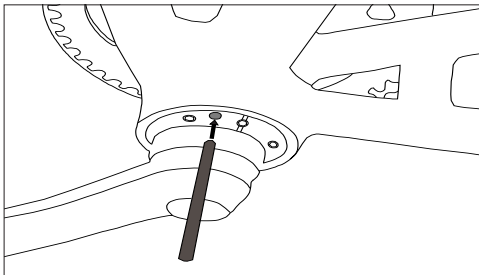

Fig. 59a: Eccentric bottom bracket adjustment
4. To rotate, first slide a 5mm rod through the open hole on the non-drive side of the bottom bracket. A long hex wrench can be used. (Fig. 59a).